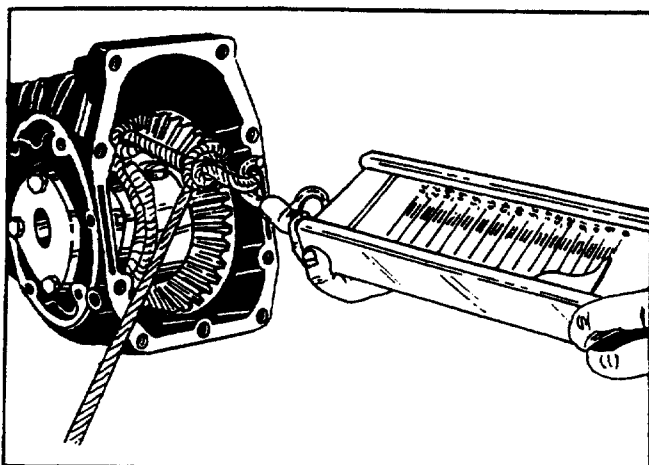

FIGURE 4.
- a. Tapered bearing preload, 2 to 12 lbs. on pull scale. (Figure 4)
2.204 Unbolt bearing retainer and lift off, remove retaining ring and shim pack. Clean shims, tape and save for reassembly, to assure an unchanged pinion-ring gear contact. If tooth contact is either high or low, see test 1.227c; a correction can be made by changing the shims. See figure 4.